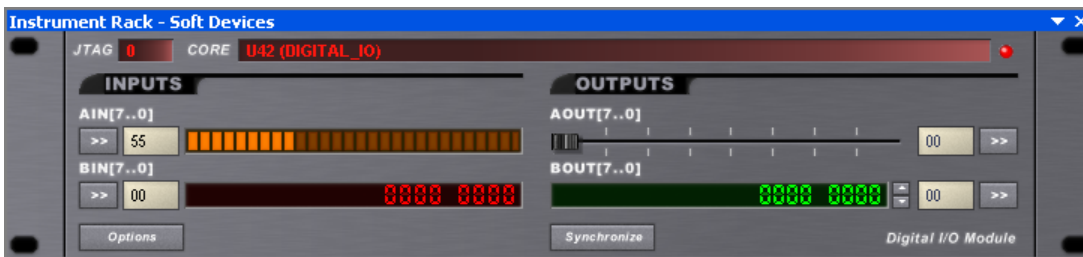

Figure 16. Digital IO instrument rack
6. The value for the signal $A_{IN}[7..0]$ should display 0x55 as it does in Figure 16.